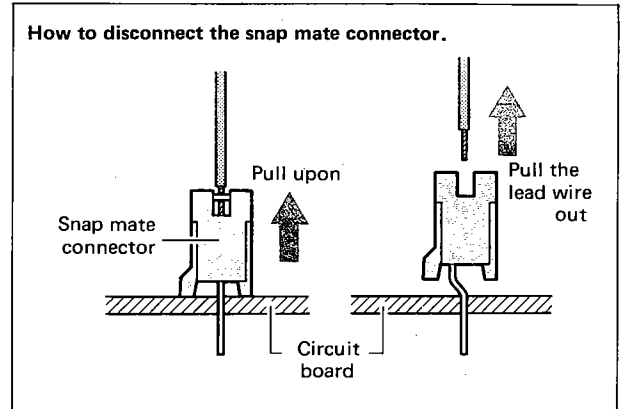

Fig. 1
c. Remove the side panel and at this time disconnect the lead wires of LED from the snap mate connectors on the muting circuit board. (Refer to Fig. 1)